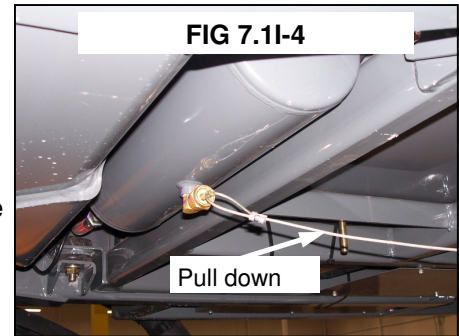

FIG 7.11-4
**AIR TANK**– Drain the air tank (fig. 7.11-4) daily by slowly releasing the drain cock. Check for moisture in the system. If there